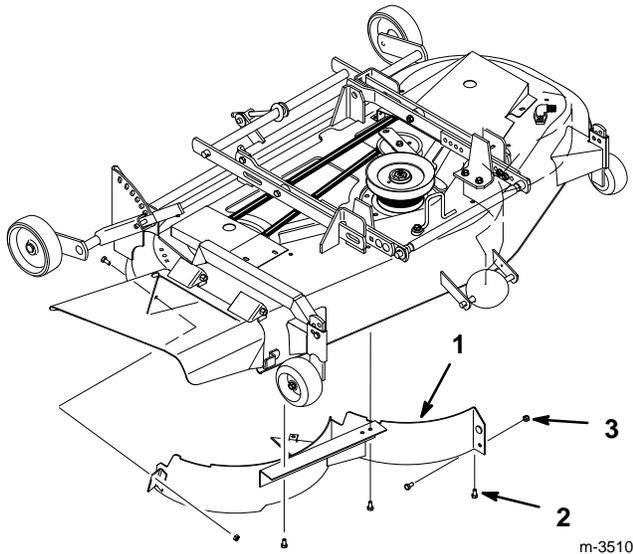

Figure 23
1. Remove lock nuts from top, discharge side and center flange of right side baffle (Fig. 23). Lower baffle and slide out discharge opening to remove.
2. Install previously removed 5/16–5/8” (16 mm) bolts and 5/16” lock nuts in open holes of mower for safety (Fig. 23).